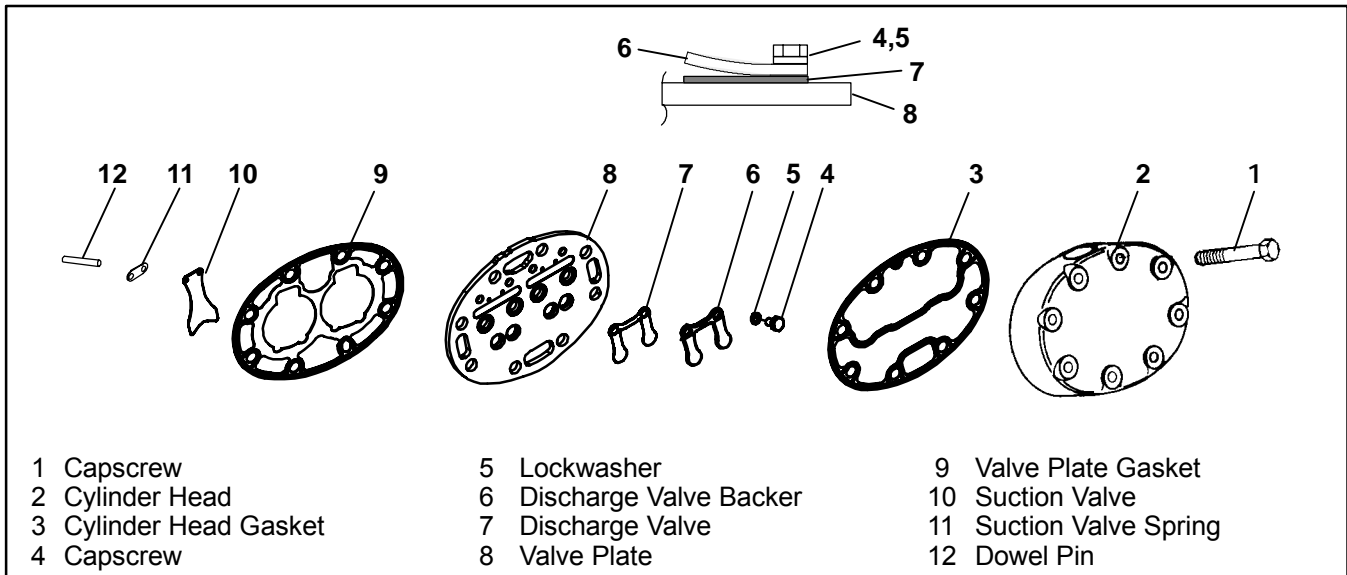

Figure 3-2. Cylinder Head & Valve Plate
- a. Loosen cylinder head capscrews. If the head is stuck, tap it lightly with a wooden or lead mallet to free it. Be careful not to drop the head or damage the gasket sealing surface. Remove cylinder head capscrews and gasket. (See Figure 3-2)